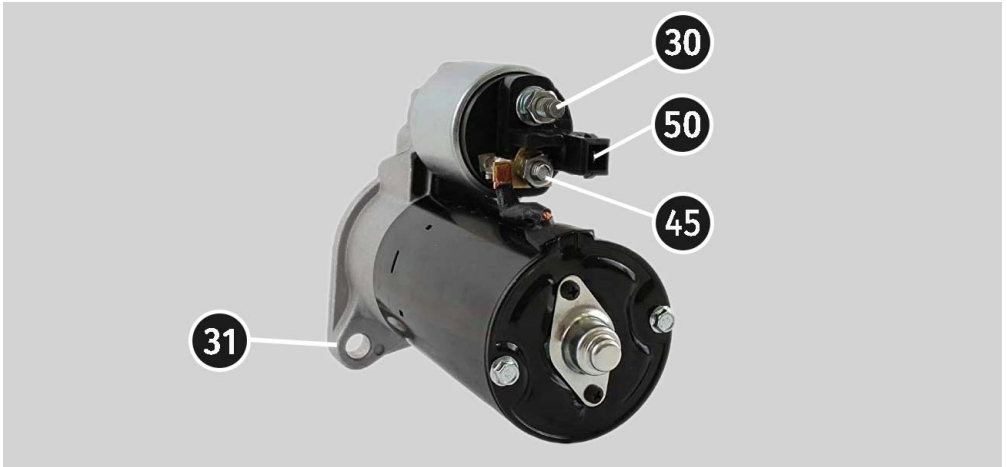

Figure 17. Terminal locations on the starter
3. Connect the "50" terminal of the bench via a cable to the control terminal of the starter solenoid (terminal 50), as shown in Fig. 17.
4. Connect the bench terminals **K30** and **K45** to the corresponding terminals of the starter, as shown in Fig. 17.